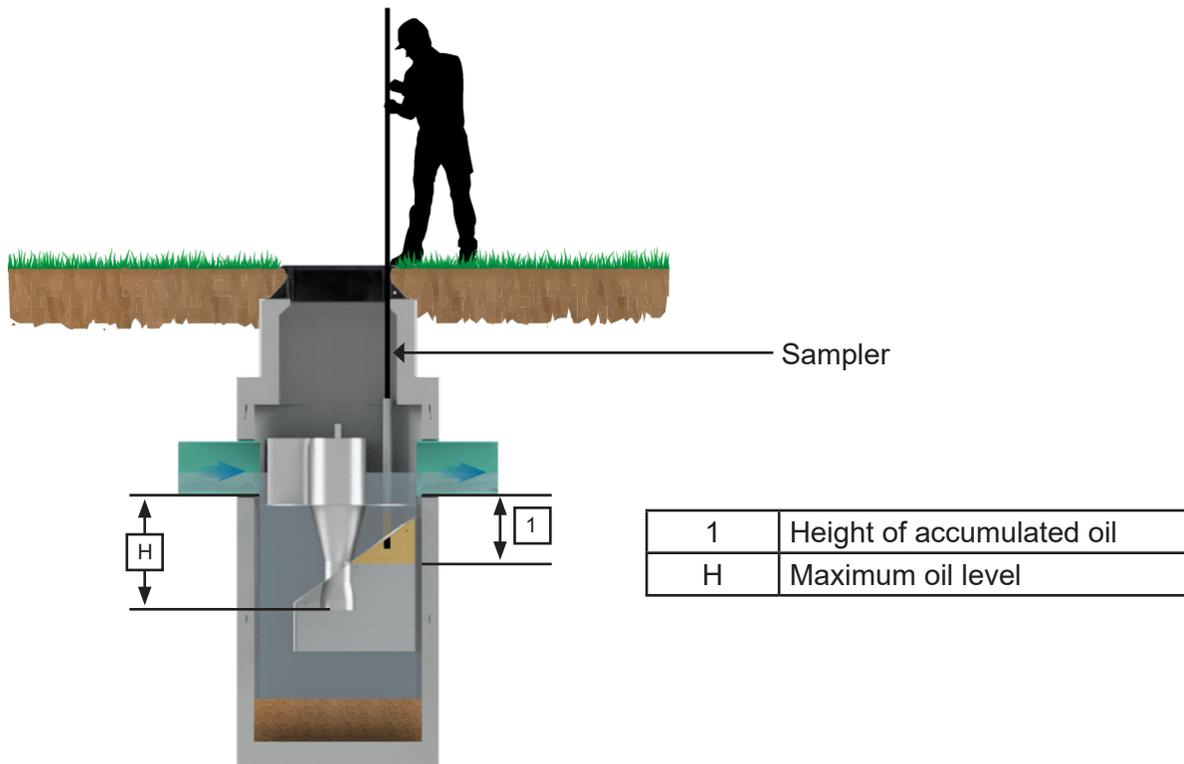

Figure 2: Oil level inspection method
1. Oil Level Inspection (Figure 2)